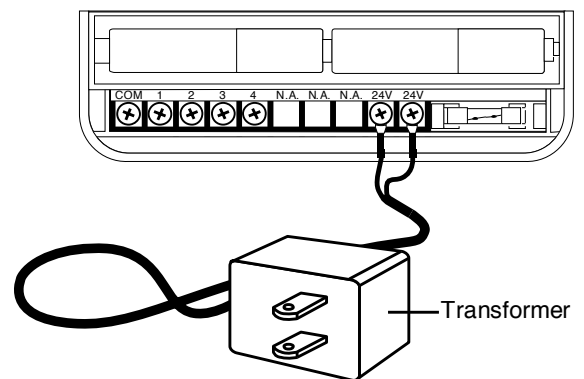

Figure 5
2. Plug in transformer. (See Figure 5.)